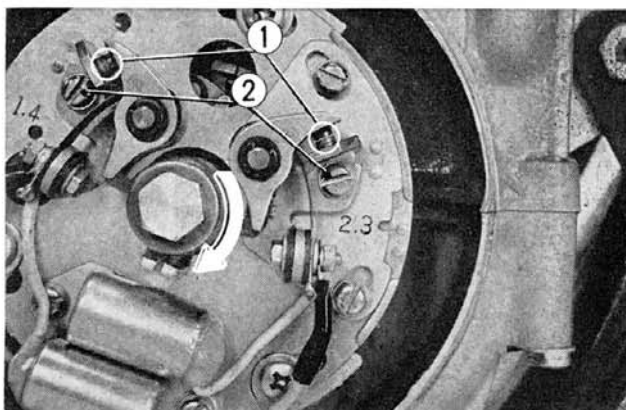

Fig. 7-19 ① Contact breaker points
#### (1) Contact breaker point gap (Fig. 7-19)
To adjust the point gap, loosen the contact breaker plate locking screw and move the contact breaker to the right or left until the proper gap opening is obtained and then tighten the locking screw. (Fig. 7-19)